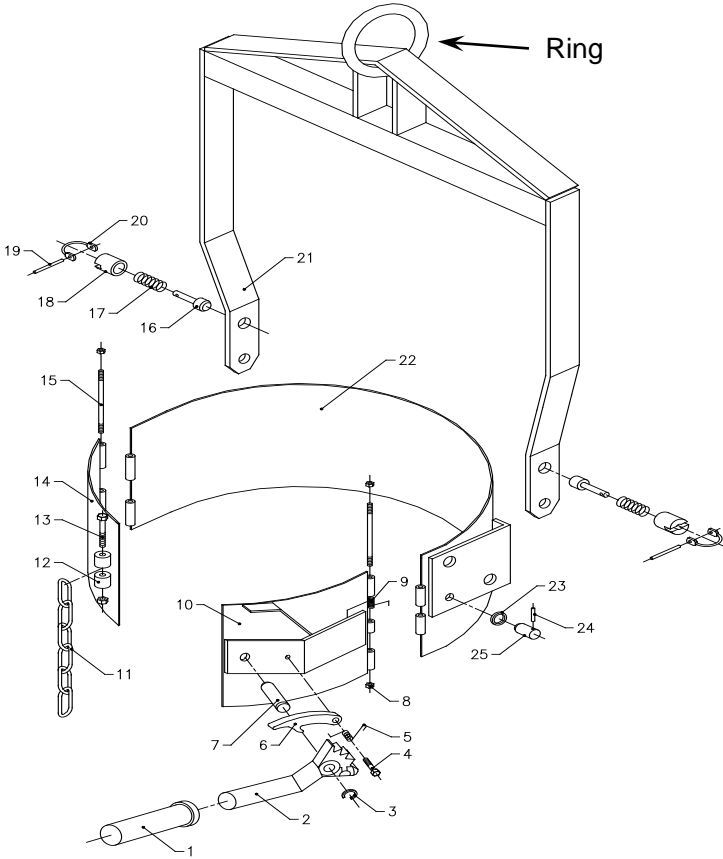
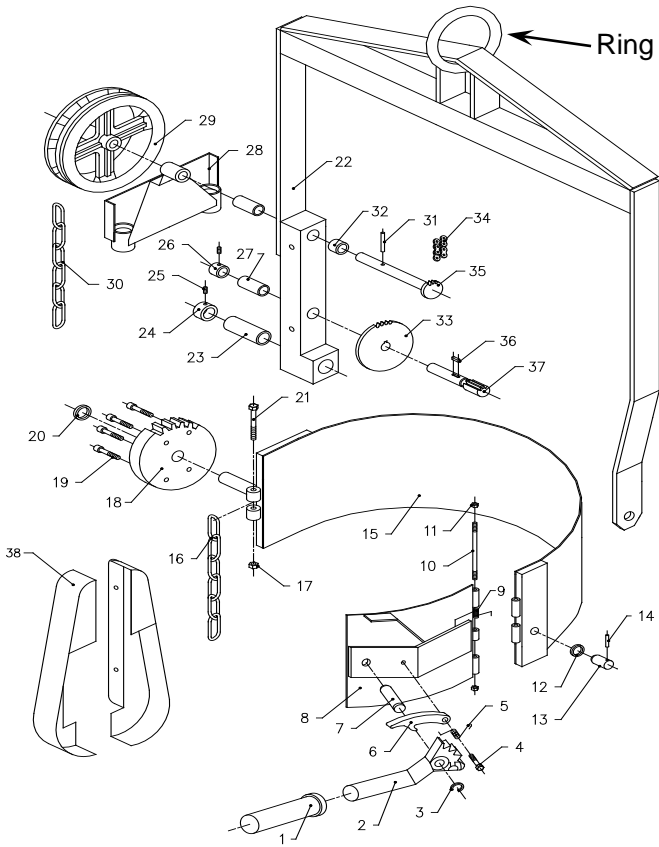

Figure 5
Figure 6
(See Fig. 5, #22 or Fig. 6, #15)
- (1) Enclose the lifter ring (See Fig.5 & 6 Ring) onto the crane or hoist hook. Position the drum lifter along side the drum and confirm that it is safely attached to the hook.
- (2) Attach the drum holder (See Fig. 5, #22 or Fig. 6, #15) around the drum near the top and buckle the chain (See Fig. 5 #11 or Fig. 6 #16.) to the geared spanner groove (See Fig. 5 & 6, #2) and turn the spanner to securely clamp the drum to the drum holder. Inspect the clamp to make certain it is tight.
- (3) Ensure that the lifter ring (See Fig. 5 & 6 Ring) on the 12R538/12R541 is connected to the crane or hoist hook with a self-locking device before lifting the drum.
- (4) Raise the drum lifter slightly off the ground and re-inspect the clamp to make certain it is secure and tight. Then continue to raise the drum to the desired height. Carefully move the drum lifter to desired location. Drum can be transported to location for pouring.
To turn the drum for pouring, the 12R538 can be turned by hand. Pull down on the chain in the chain wheel (See Fig. 6, #30) the 12R541.
Note: The 12R538 has a lock-pin (See Fig. 5 #20) that should be slipped off before the drum can be tilted 0~90° for pouring.
- (5) When finished using the drum, it should be returned to the vertical position and re-clamped and lowered to the floor or pallet. Turn the geared spanner (See Fig. 5 & 6, #2) towards the clamp while loosening the connection of the geared pawl (See Fig. 5 & 6, #6). When the chain releases the drum can be taken out.